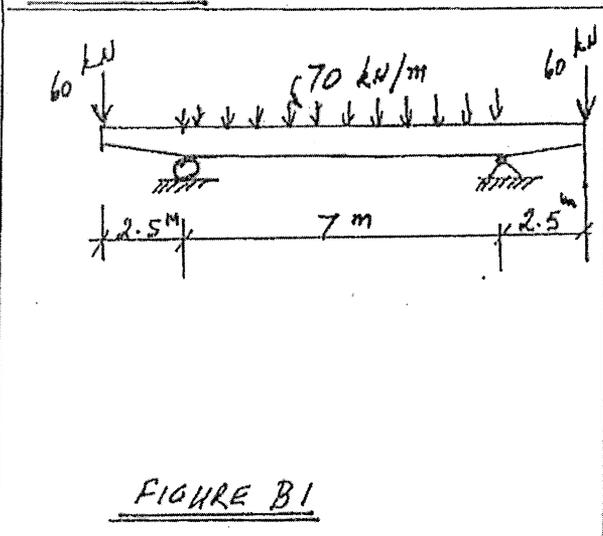

FIGURE B1
- B1. A reinforced concrete beam with two overhangs, is loaded as shown in Figure B1. Determine the dimensions of its rectangular cross-section and the steel reinforcements to satisfy moment and shear. Take into account the self-weight of the beam. (Use  $f'_c = 35$  MPa and  $f_y = 400$  MPa.)